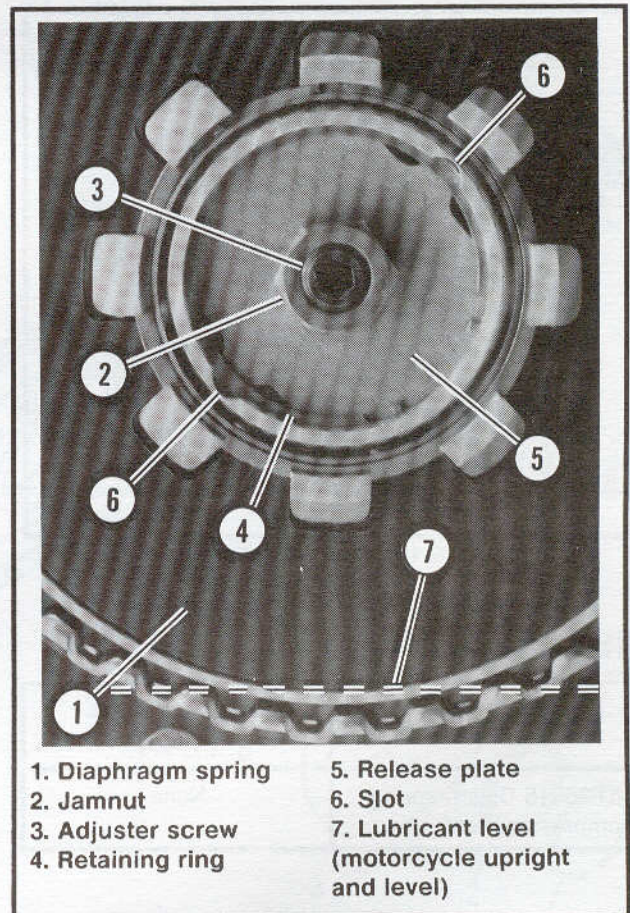

Figure 6-8. Push Rod Adjustment
5. See Figure 6-8. With vehicle standing upright and level, the lubricant must be level with the bottom of the outer diameter of the diaphragm spring (1).
The clutch adjustment should be performed with the motorcycle at room temperature. See Figure 6-8. The clearance at the adjuster screw (3) will increase as the power train temperature increases. If adjuster screw is adjusted with power train hot, clearance at push rod bearing will be insufficient and clutch slippage will occur.
4. See Figure 6-8. Loosen clutch adjuster screw jamnut (2) and turn push rod adjusting screw (3) inward (clockwise) to take up all free play in push rods.
3. See Figure 6-8. Loosen jamnut (2) and remove adjuster screw (3) and jamnut.
2. See Figure 6-8. Remove retaining ring (4) and release plate (5). A small screwdriver may be inserted in either of the slots (6) to aid removing retaining ring (4).